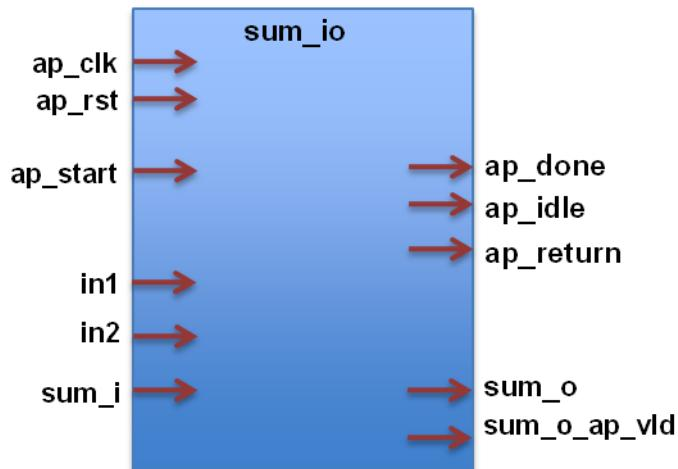

Figure 3-1: RTL Ports After Default Interface Synthesis
By default, the design is synthesized into an RTL block with the ports shown in Figure 3-1.
- Vivado HLS both reads from and writes to function arguments, then synthesizes them into separate input and output ports (`sum_i` and `sum_o` in Figure 3-1).